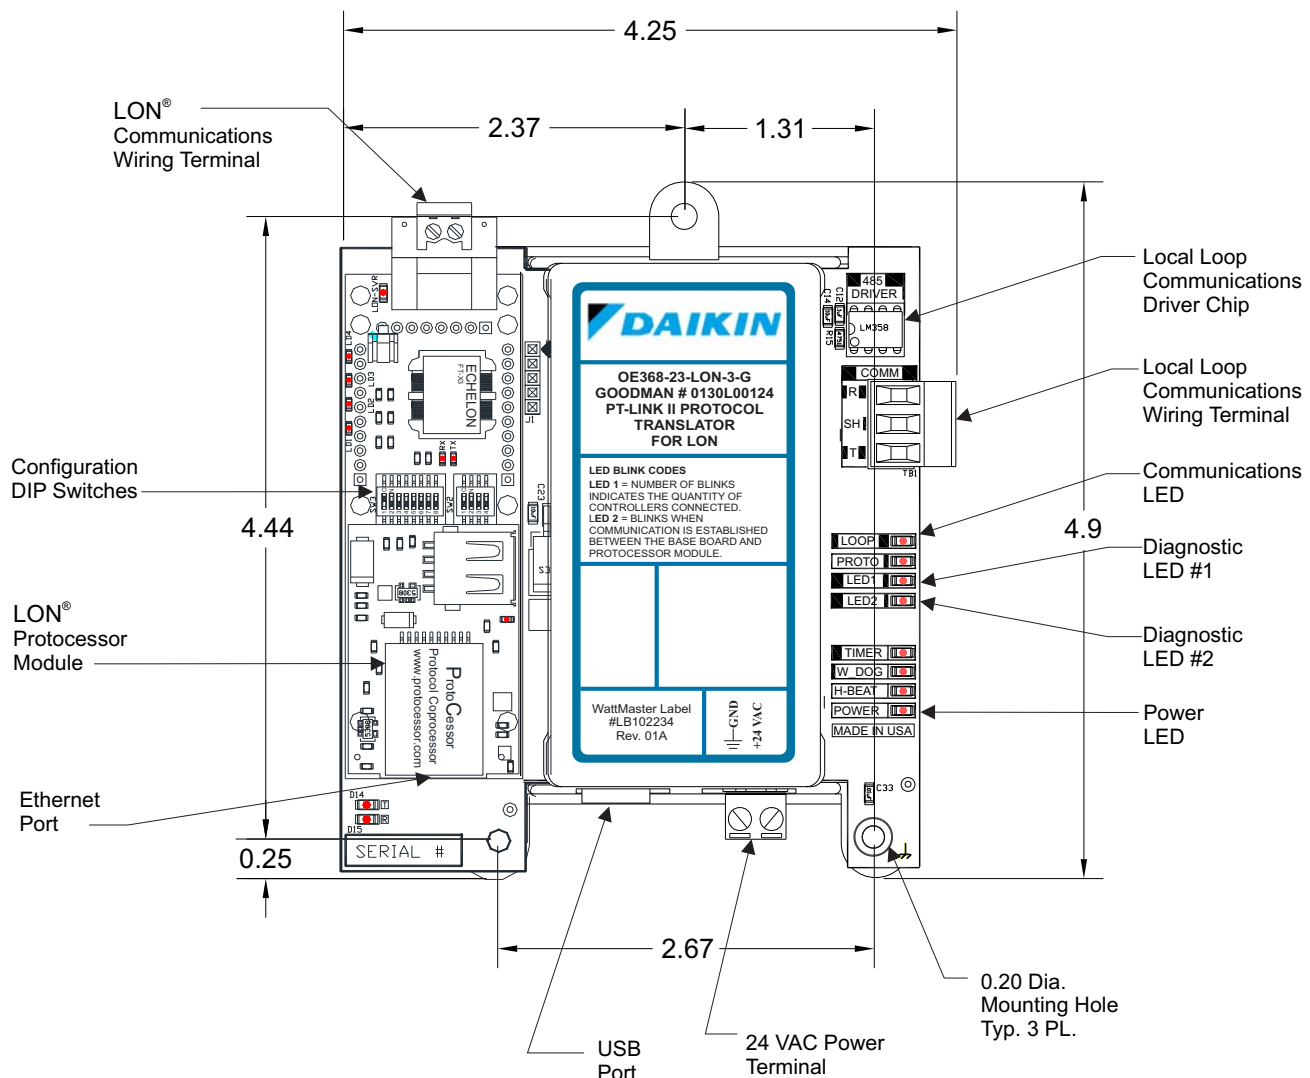

Figure 1: PT-Link II LON-3® Dimensions and Components
1. Familiarize yourself with the PT-Link II components (**Figure 1**).